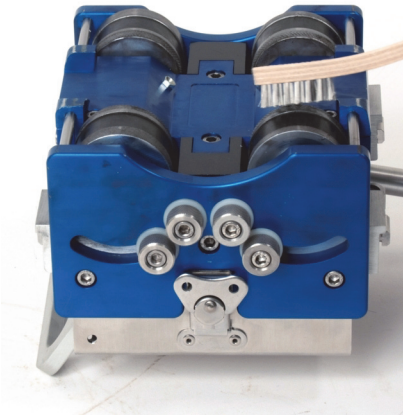

Figure 3-4 WeldROVER—Stainless steel brush on the wheel
6. Use the stainless steel brush to remove any ferromagnetic-material residue from the wheel (Figure 3-4 on page 64).